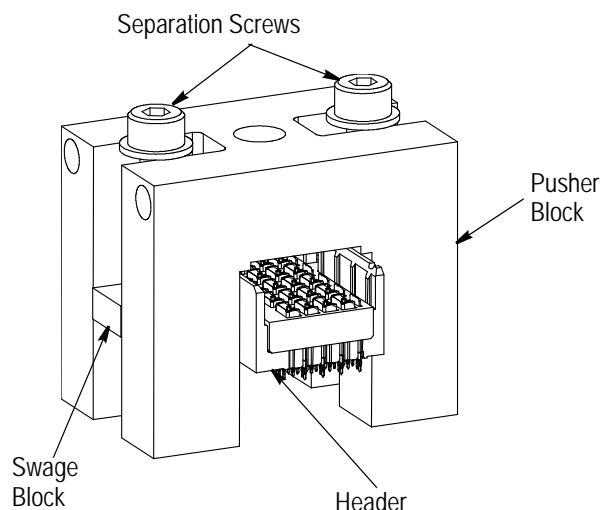

Figure 7
3. Make sure the washers are on the separation screws and thread the screws into the swage block as shown in Figure 7.